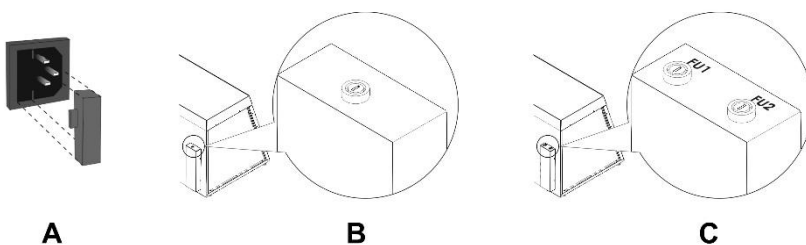

Figure 4. Fuse replacement
- 7.4.1. Fuse for the control box. Disconnect the unit from electric circuit. Remove power cable from its socket on the rear side of the unit. Open the fuse holder by pulling out the holder (fig. 4/A, compact models) or by screwing off the holder lid marked FU2 (fig. 4/C, model UVT-S-AR). Check the fuse and replace if necessary, M 3.15 A (type **M** - time lag: **Medium**).
- 7.4.2. Fuse for the mains outlets (for models with built-in mains outlets). Disconnect the unit from electric circuit. Open the fuse holder by screwing off the holder lid (fig. 4/B or 4/C, FU1). Check the fuse and replace if necessary, M 5.0 A (type **M** - time lag: **Medium**).